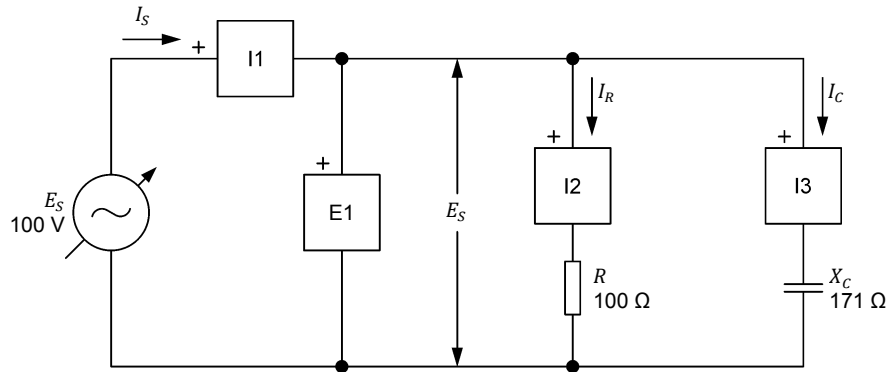

Figure 4-5. Parallel ac circuit containing a resistor and a capacitor, and set up for circuit analysis.
7. Set up the circuit shown in Figure 4-5.
9. Resolve the entire circuit shown in Figure 4-5 using the impedance calculation method.